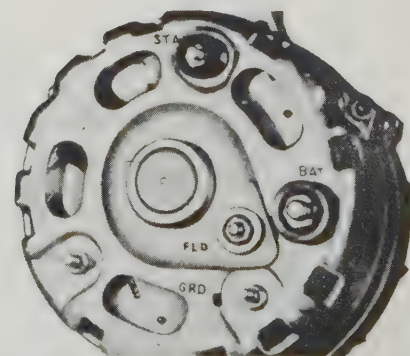

Fig. 10.4. Alternator wiring terminals (Sec. 9)
- 2 Note the terminal connections at the rear or side of the alternator and disconnect. (Fig. 10.4).